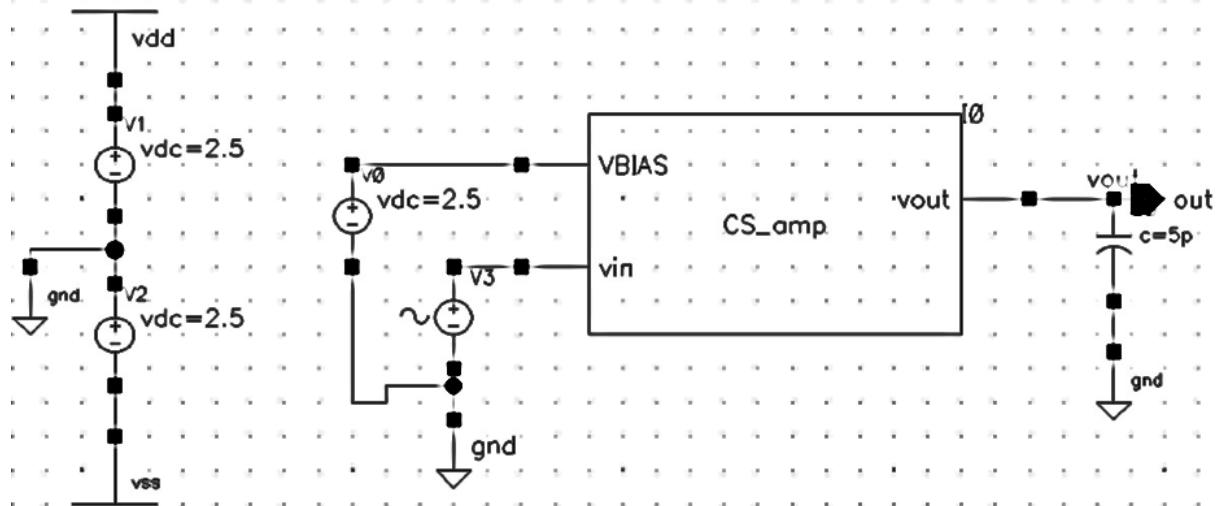

Figure 8.5: Test Schematic for CS Amplifier
1. Built the Test schematic based on Fig.8.5 and Table.8.2.
- Built the Test schematic based on Fig.8.5 and Table.8.2.